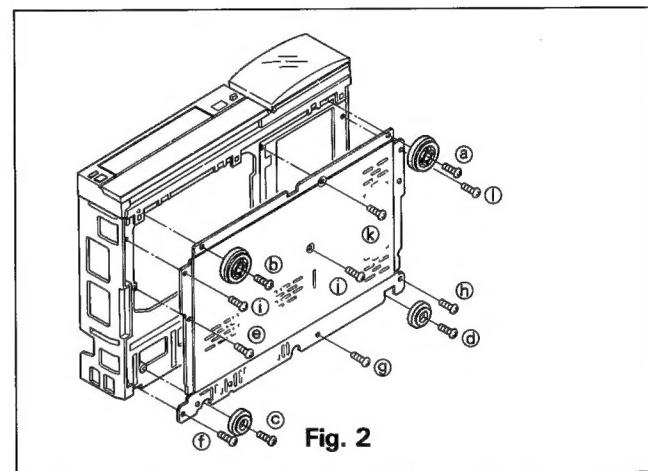

Fig. 2
- A. Remove the four screws (Ⓐ ~ Ⓞ) retaining the insulators as shown in Fig. 2.
- B. Remove the eight screws (Ⓔ ~ Ⓣ) retaining the bottom cover as shown in Fig. 2.
- B. Remove the two screws (Ⓐ and Ⓑ) retaining the insulators as show in Fig. 2.